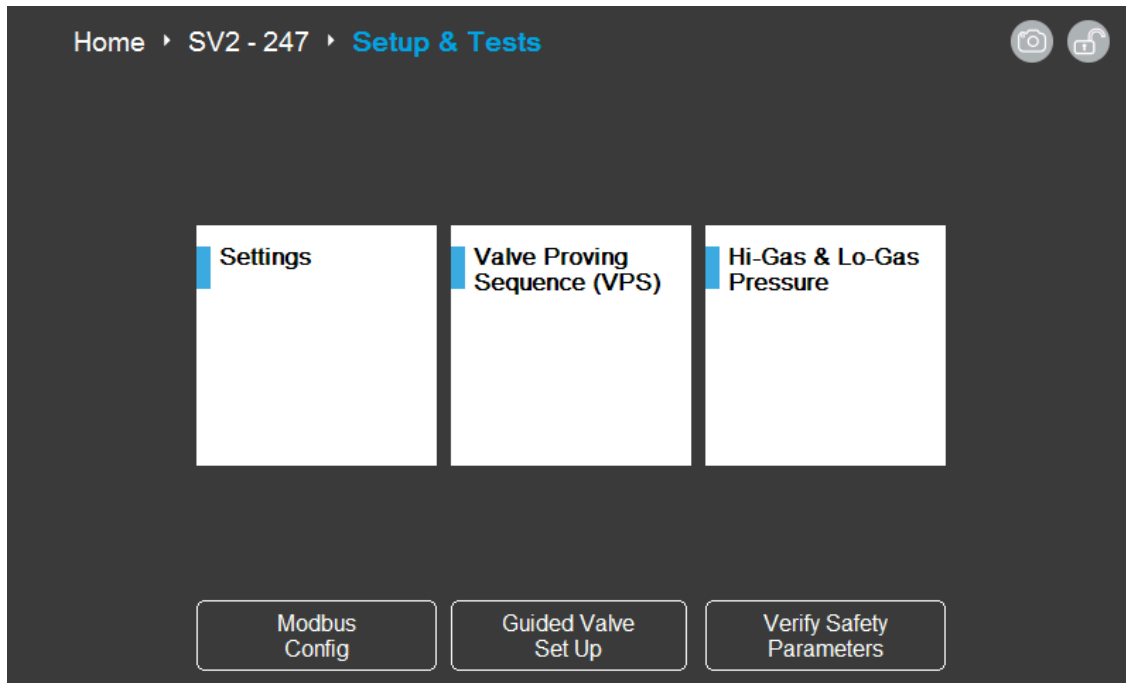

Fig. 34. Setup & Tests.
**Setup & Tests** Shows current valve operational state. Also provides access to valve Settings, VPS Setup, Hi-Gas/Lo-Gas Pressure setup, Modbus Config (HMI only), Guided Valve Setup and Verification of Safety Parameters. Refer to Fig. 34.
Selected on Setup & Tests page. Refer to Fig. 34.
- After setup is complete, Verification of Safety Parameters procedure must be completed before valve will be operational. Refer to Figs. 34 and 44.
Then select **Valve Proving Sequence (VPS)** from the Setup & Tests page. Refer to Fig. 34.
- The units shown will reflect chosen units in the Valve Setup: Units at the beginning of the Guided Valve Setup procedure (refer to Fig. 12) or in the Setup & Tests / Settings menu (Refer to Figs. 34 and 36).
- The Valve Proving Sequence setup can also be accessed via the Guided Valve Setup menu. Refer to Figs. 34 and 10-25.